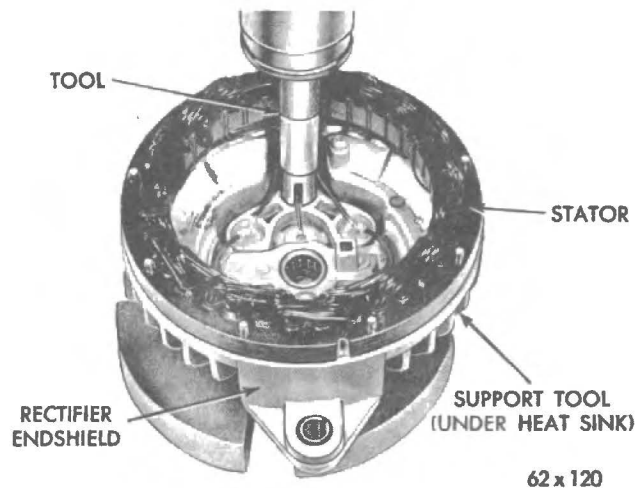

Fig. 41 - Installing a rectifier (Tool CA-3772).
(1) Support the heat sink or rectifier end shield on circular plate of Tool CA-3772.
(2) Note the rectifier identification to make sure the correct rectifier is being installed. Refer to parts list for rectifier identification.
(3) Start the new rectifier into the casting squarely and press the rectifier into the casting with Tool CA-3772 (Fig. 41).